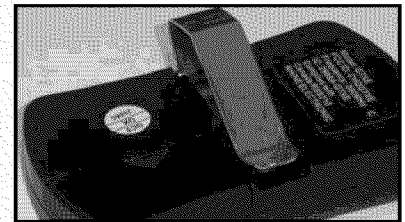

FIG. 8-3 Attach visor clip.
- It will snap into place (Fig. 8-3).